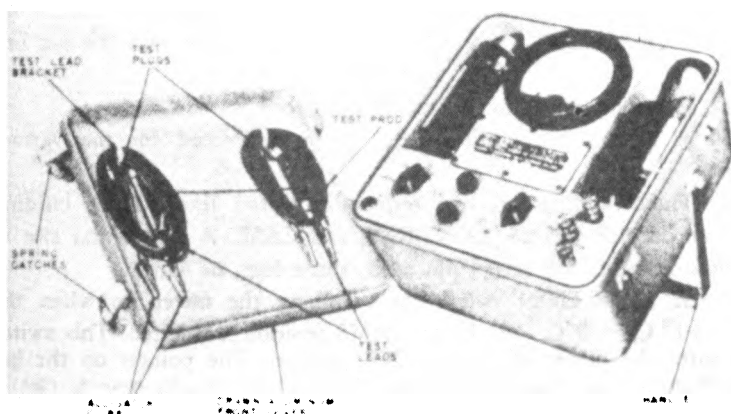
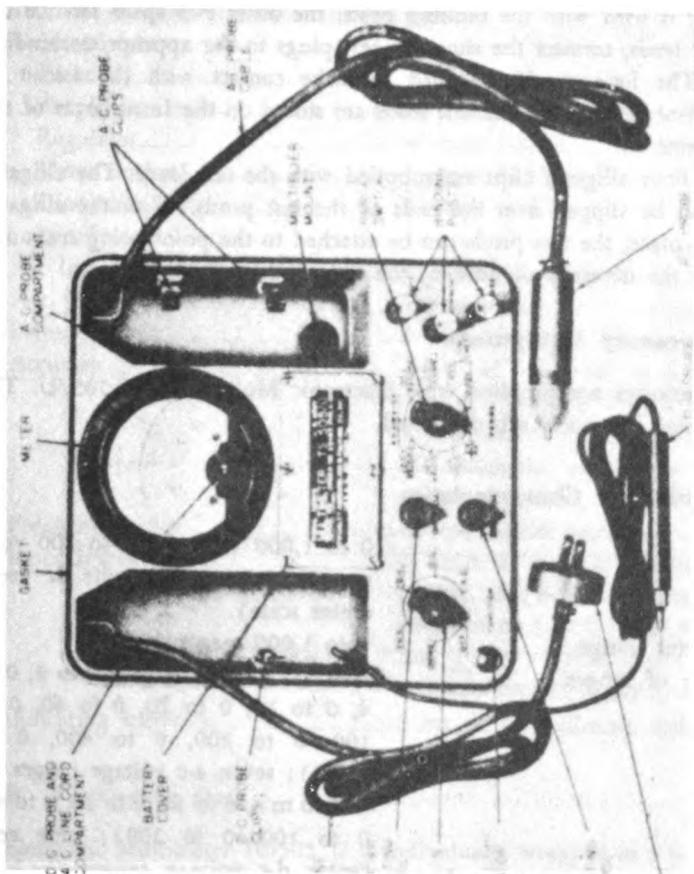
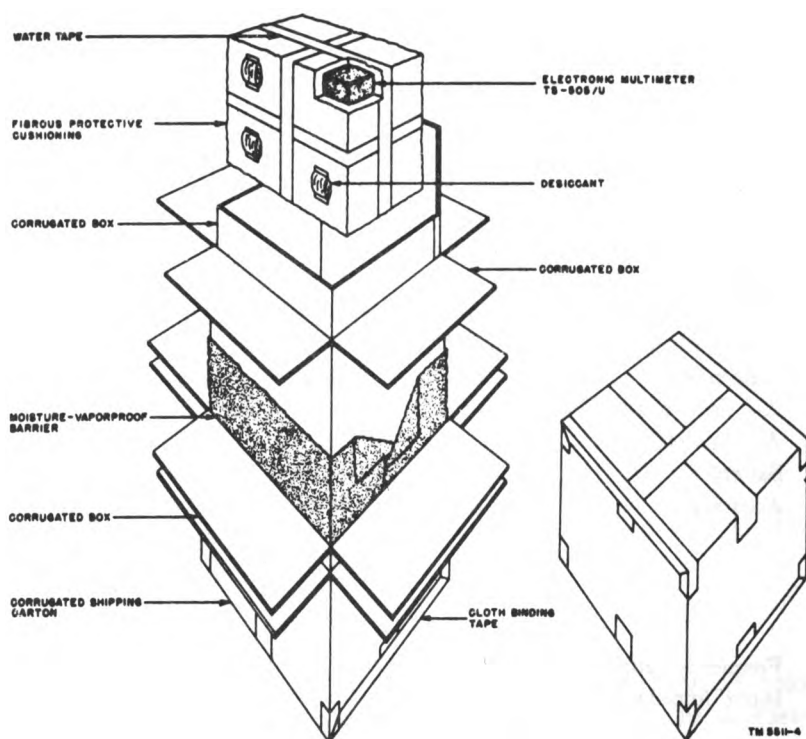

Figure 2. Electronic Multimeter TS-505/U, with handle locked in position.
Figure 3. Electronic Multimeter TS-505/U, front panel.
Figure 4. Electronic Multimeter TS-505/U, packing details.
a. **DESCRIPTION OF ELECTRONIC MULTIMETER.** (1) Electronic Multimeter TS-505/U is a general purpose a-c (alternating-current) and d-c (direct-current) vacuum-tube voltmeter and a d-c ohmmeter. It is a self-contained unit.
(2) The cover of the multimeter is attached with four spring catches (fig. 2). Two sets of test leads for use with the multimeter are contained in the cover. The handle may be pivoted and locked into position to act as a stand, thus permitting the operator to place the multimeter at a comfortable viewing angle (fig. 2). Six screws are used to attach the rear cover of the multimeter. These screws serve as legs which protect the meter case when it is placed in a horizontal position.
(3) The multimeter is made completely watertight by means of two peripheral rubber gaskets (on the back and on the front of the front panel); by rubber gaskets behind the meter and the battery cover; and by O rings, or washers, behind the potentiometers, the switches, the binding posts, and the pilot light indicator jewel.
c. **EQUIPMENT FEATURES.** (1) Voltages and resistances are measured by a specially calibrated milliammeter. The d-c and a-c voltages are read on the outer arc (black) of the scale (fig. 3). The resistance scale is the second largest arc (green). The zero center d-c scale is the third largest arc (blue). The 0- to 2-volt a-c range is the innermost arc (purple). The meter is hermetically sealed.
(2) There are nine d-c voltage ranges which permit measurement of voltages from .05 to 1,000 volts. The appropriate voltage range is selected with the RANGE switch. The input resistance is 20 megohms on all d-c voltage ranges except the 1,000-volt range; for the 1,000-volt range, the input resistance is increased to 50 megohms.
(3) There are seven a-c voltage ranges which permit measurement of voltages from .05 to 200 volts. The appropriate voltage range is selected with the RANGE switch. The input capacity is 2 uuf (micromicrofarads)
a. **FRONT PANEL.** The front panel (fig. 3) includes the following:
(1) A compartment for storing both the d-c probe and the a-c line cord.
(2) A compartment for storing the a-c probe.
(3) A 0- to 1-ma (milliampere) meter calibrated for the various ranges.
(4) Three binding-post type terminals for test leads. These binding posts are labeled OHMS, COMMON, and CASE. A rectangular slot in the binding posts will accept pin jacks, spade lugs, or wire.
(5) A **FUNCTION** switch for switching the meter on when the A C, +D C, ±D C, -D C, or OHMS position is selected. This switch also turns the power off in the OFF position. The pointer on the bar knob indicates the function selected.
(6) A **RANGE** switch for selecting the proper voltage or resistance range. The pointer on the bar knob indicates the range selected.
(7) An ohmmeter adjusting control (OHM ADJ) to compensate for the decrease of the ohmmeter battery voltage.
Electronic Multimeter TS-505 U is individually wrapped in a waterproof, fiberboard container and packed in a fiberboard packing case (fig. 4). The dimensions and weight of the multimeter packaged complete with tubes and technical literature are shown in the table below.
(1) Place the packing case (fig. 4) in a convenient location where it may be opened easily.
(2) Cut the cloth binding which seals the exterior carton in such a manner as to leave the carton undamaged. Open the carton. Remove the inner corrugated box and open it.
(3) Lift the moisture-vaporproof barrier from the carton. Open the side of the carton and pull out the inner carton.
(4) Carefully cut the tape sealing the inner fiberboard box so that the carton will not be damaged. Open the carton. Remove the inner corrugated box and open it.
(5) Remove the cushioning and desiccant from the inner fiberboard box.
(6) Carefully lift the multimeter from the inner carton and place it on a solid table or workbench.
(7) Place the cushioning and the cartons into the outer carton for future use. They can be used again when the multimeter is repacked for storage or shipment (ch. 5).
(8) Check the contents against the master packing slip and against the list of components in paragraph 4. The test leads will be found on the front cover.
c. **INSPECTION.** (1) Inspect the multimeter thoroughly. Make sure that it has not been damaged in shipment or during unpacking. Inspect the carrying handle to see that it swings freely on the pivot point and will lock in position (fig. 2) to support the meter in an inclined position.
(2) Check the four catches on the front cover. Remove the front cover by unfastening the catches.
13. Controls (fig. 3)